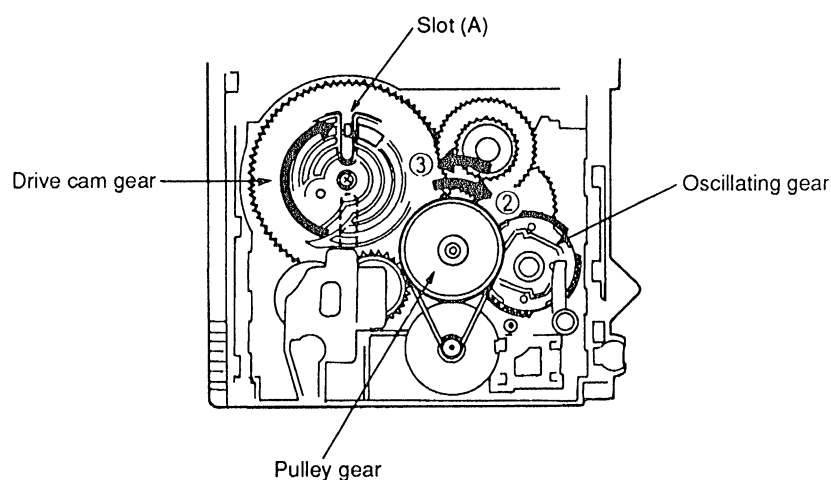

Fig.7
11. Rotate the pulley gear in the direction of arrow ② and then rotate the pulley gear to full position in the direction of arrow ③ when the oscillating gear stops.
12. Rotate the drive cam gear so that the slot (A) of the drive cam gear is put into a given position as shown in fig.7.